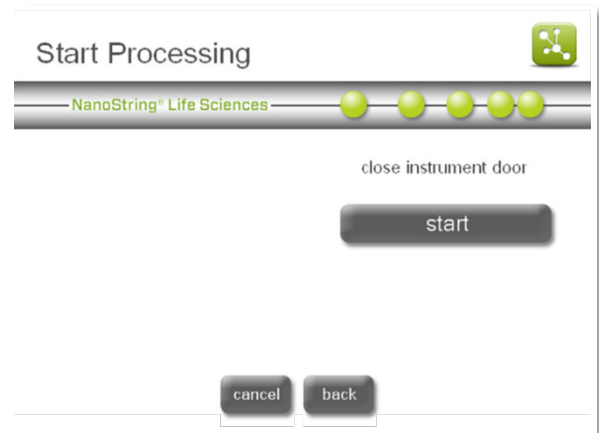

Figure 140: The 'Start Processing' screen.
6. The 'Start Processing' screen will appear (**Figure 140**). Press **start** to initiate the protocol.